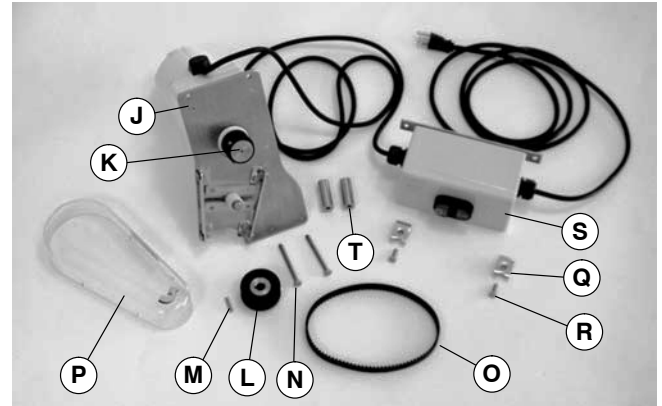
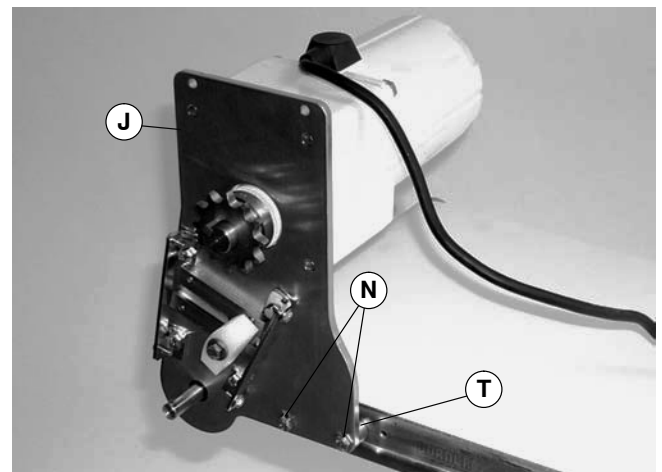

Figure 2
Figure 10
1. Typical components (Figure 2)
NOTE: For a 7300 Series mounting package, install two spacers (T of Figure 2) (shipped loose) between mounting plate/gearmotor assembly (J) and conveyor. On a 7200 Series (shown), the two spacers (T of Figure 10) are attached to the mounting plate/gearmotor assembly.
3. Attach mounting plate/gearmotor assembly (J of Figure 10) and two spacers (see Note) with screws (N). Tighten screws to 92 in-lb (10.4 Nm).